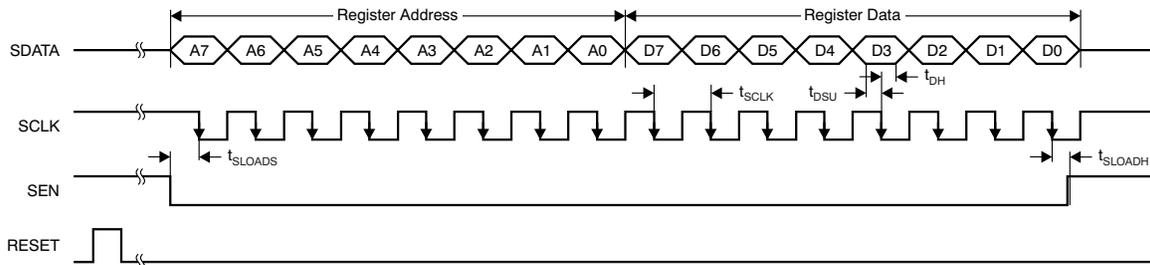

图 151. Serial Interface Timing
1. Either through hardware reset by applying a high pulse on the RESET pin (of width greater than 10ns), as shown in 图 151; or